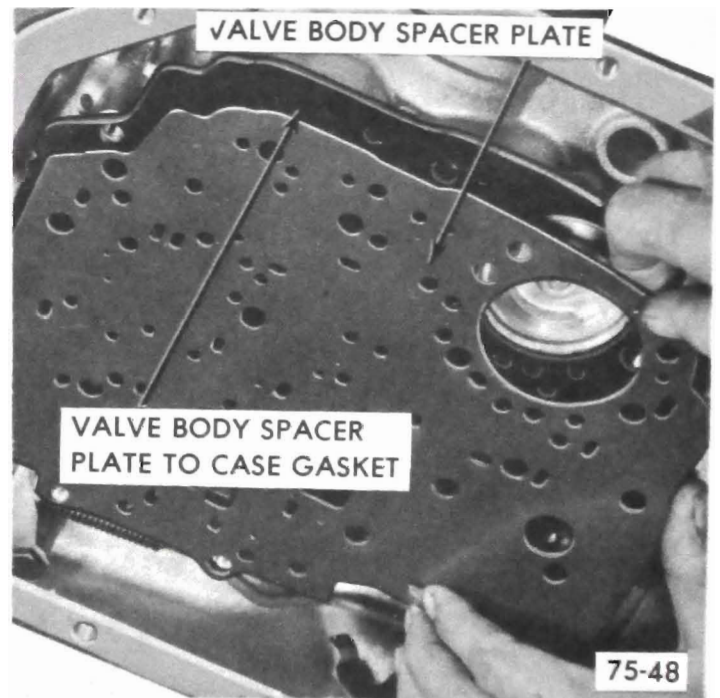

Figure 75-65
5. Remove valve body spacer plate and valve body spacer plate to case gasket. See Figure 75-65. Be sure to note position of the four (4) plastic check balls so they are assembled correctly.